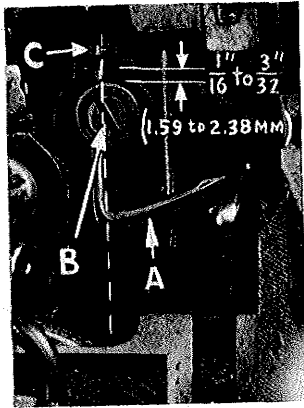

Fig. 9
Insert upper looper (A, Fig. 9) in its holder. Screw (B), holds upper looper in its holder, and permits it to be pushed in or out or turned around its shank. Insert upper looper holder into upper looper shaft, if it is not already in place. Screw (C), on clamp holds the upper looper holder in the shaft. Locate upper looper in its holder so that the shank extends $1/16$ to $3/32$ inch (1.59 to 2.38 mm) beyond holder (Fig. 9) for Styles 39500 QS, QT, RD, RL, RT, TJ, TM and TT. For Style 39500 TK the shank should extend $1/8$ inch (3.17 mm) beyond holder.